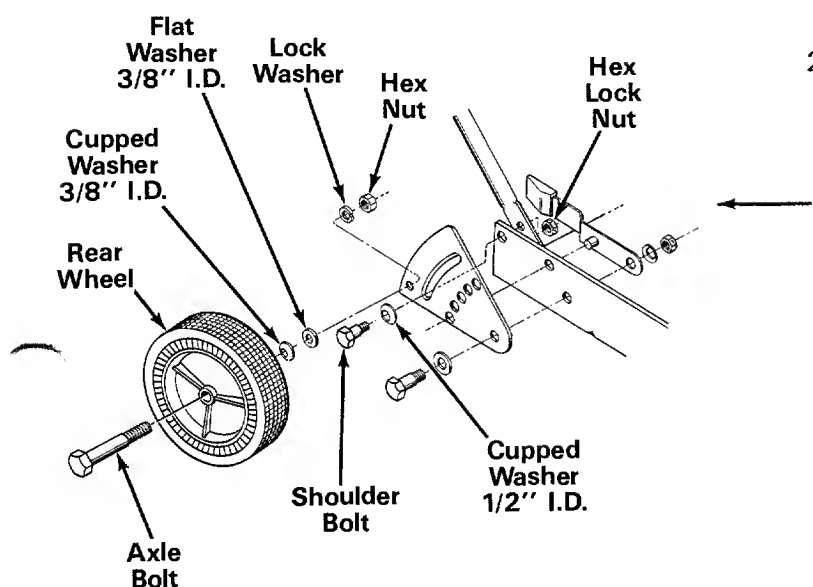

FIGURE 2
2. Assemble the right rear wheel as follows. See figure 2.